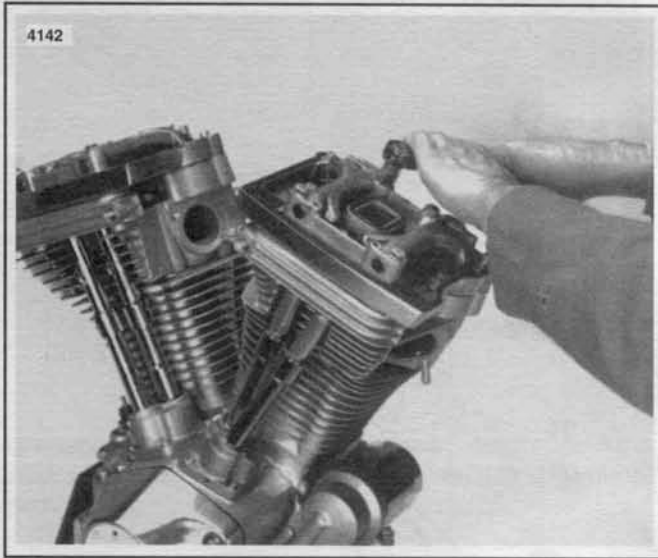

Figure 3-10. Remove Lower Rocker Arm Cover Fasteners
9. See Figures 3-10 and 3-11. Remove the remaining fasteners (12, 13 and 14) holding the lower rocker arm cover (17) to the cylinder head.